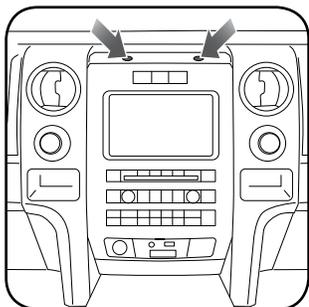

Fig. 1.1
1. Remove (2) 7mm screws, located under the rubber mat at the top of the radio bezel. (Fig. 1.1)